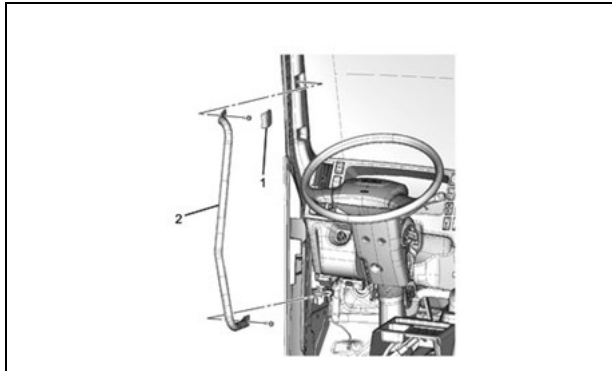

Figure 8
9. Open the assist handle upper cover using a flathead screwdriver and remove the upper bolt. Then remove the lower bolt of the assist handle and remove the assist handle from the front pillar. (See Figure 8.)